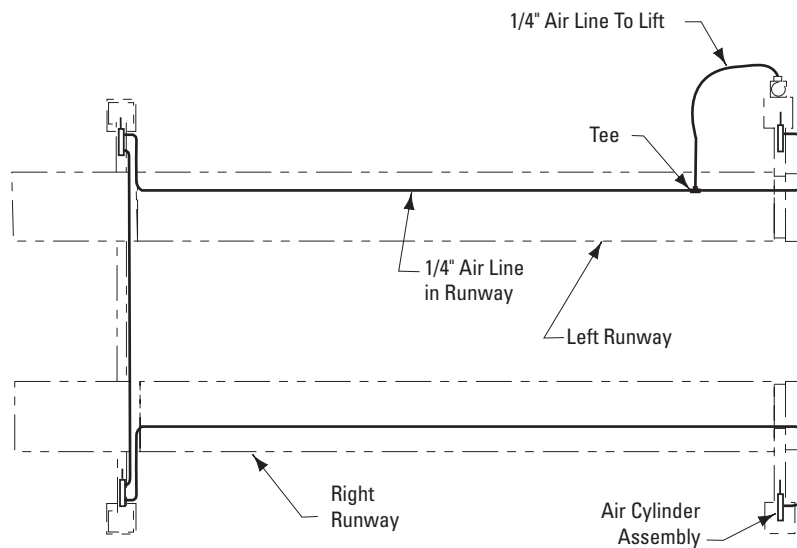

Fig. 31
- F. Attach enclosed NP280 decal (ACTUATE TO RELEASE LATCHES) on air valve bracket. Run 1/4" air line from air valve to the slot in the fixed runway. Cut air line and attach to Tee in front yoke, Fig. 31. This air line is for locking latches.
- G. Run 1/4" air line from the Tee of the runway slot through the hole in the rear yoke and into the air cylinder, Fig. 31.